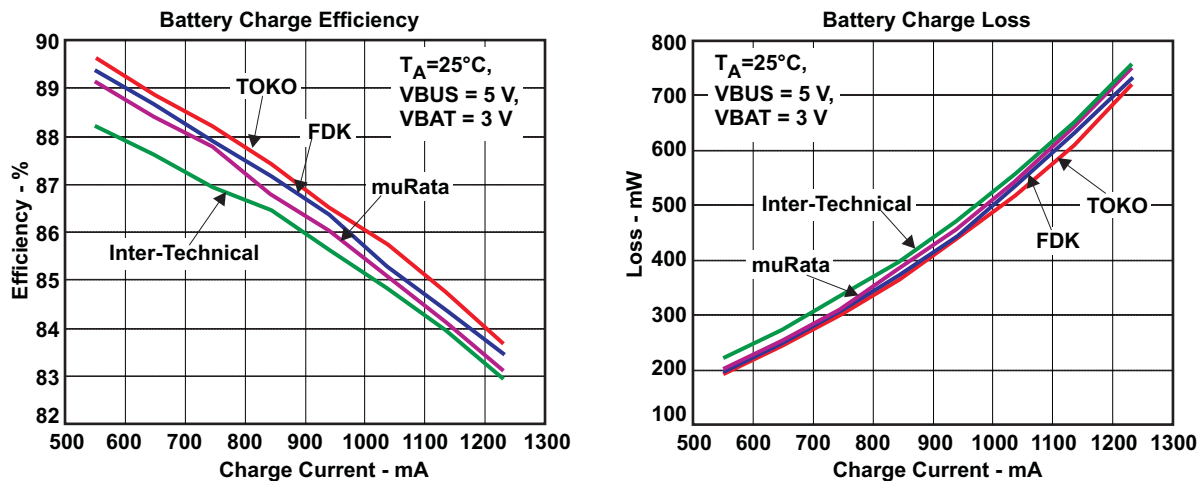

Figure 36. Measured Efficiency and Power Loss
4. Measured efficiency and total power loss for different inductors are shown in Figure 36.